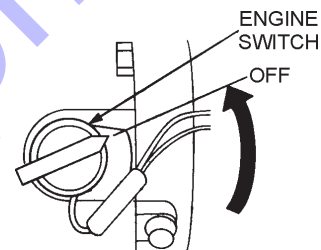

Figure 10. Engine ON/OFF Switch (OFF)
- After the engine **cools**, turn the engine ON/OFF switch to the **"OFF"** position (Figure 10).